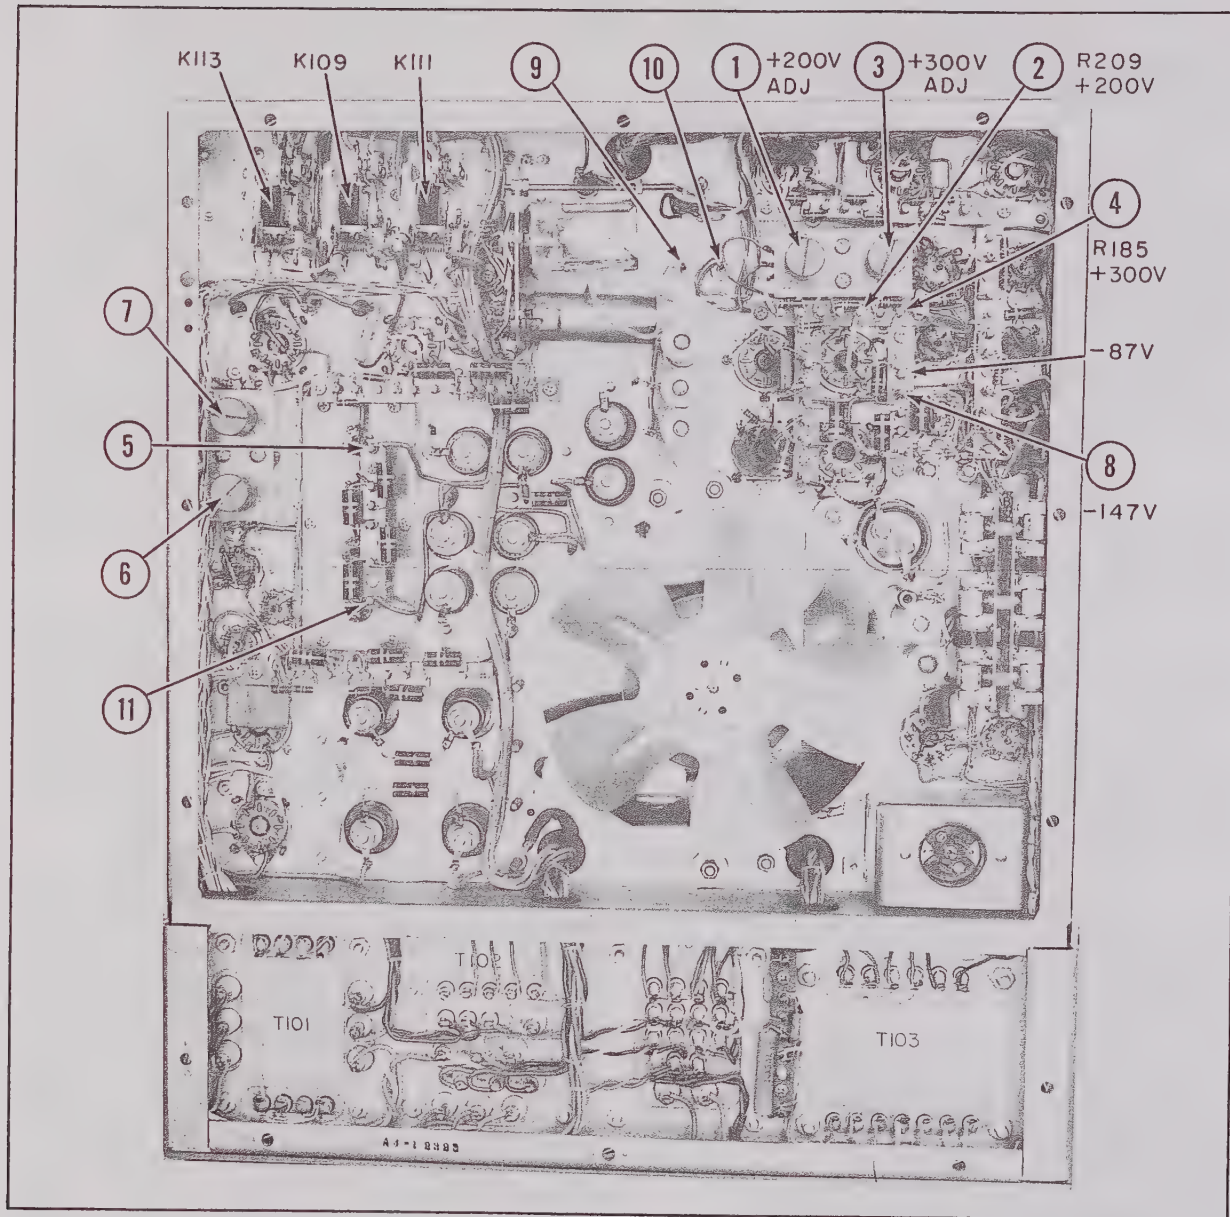

Figure V-5. Power Supplies (Rear View).
c. SCREWDRIVER ADJUST CONTROLS, POWER SUPPLY. (See Fig. V-5).
1. **+200 V ADJ, R211** (Fig. V-5, Ref. 1). This control adjusts the voltage of the +200 volt supply. It should be adjusted to make the voltage measured at junction of R209 and pin 5 of C127 exactly +200. (Fig. V-5, Ref. 2).
2. **+300 V ADJ, R187** (Fig. V-5, Ref. 3). This control adjusts the voltage of the +300 volt supply. It should be adjusted to make the voltage measured at junction of R185 and pin 3 of C127 exactly +300. (Fig. V-5, Ref. 4).
3. **-325 V ADJ, R147** (Fig. V-5, Ref. 6). This control adjusts the -325 volt supply to which the 6BM6 Klystron cathode is connected. Set the band switch to Range 2 to energize the 6BM6 klystron and adjust this control to make the voltage measured at pin 5 of V108, (Fig. V-5, Ref. 5) exactly -325.
4. **-1250 V ADJ., R157** (Fig. V-5, Ref. 7). This control adjusts the -1250 volt supply to which the 5721 Klystron cathode is connected. Since the -325 volt and the -1250 volt adjustments are not independent, the -1250 volt should be adjusted only after the -325 volt adjustment has been completed. Set the band switch to Range 3 to energize the 5721, Klystron and adjust the control to make the voltage measured at pin 5 of V108 (Fig. V-5, Ref. 5) exactly -1250.
b. LOW-VOLTAGE POWER SUPPLY (Fig. V-5).